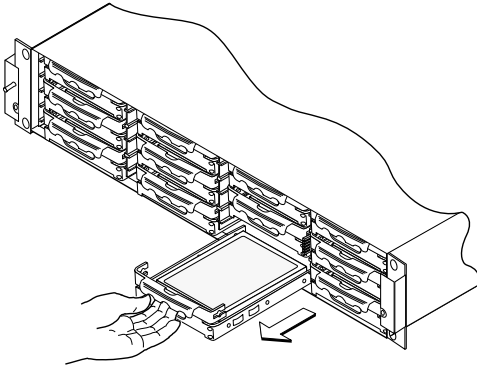

Figure 5-5. Removing a Disk Drive
- 3 Grasp the drive carrier handle and pull the disk drive from the storage enclosure. See Figure 5-5.